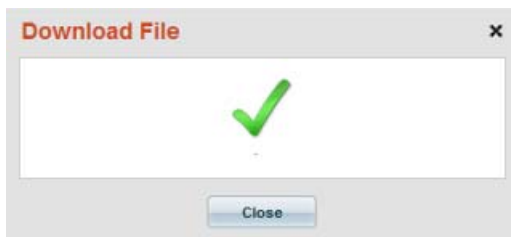

FIG. 367 Download File (Report Exported) dialog
- d. The program will indicate when the report has been exported (FIG. 367):